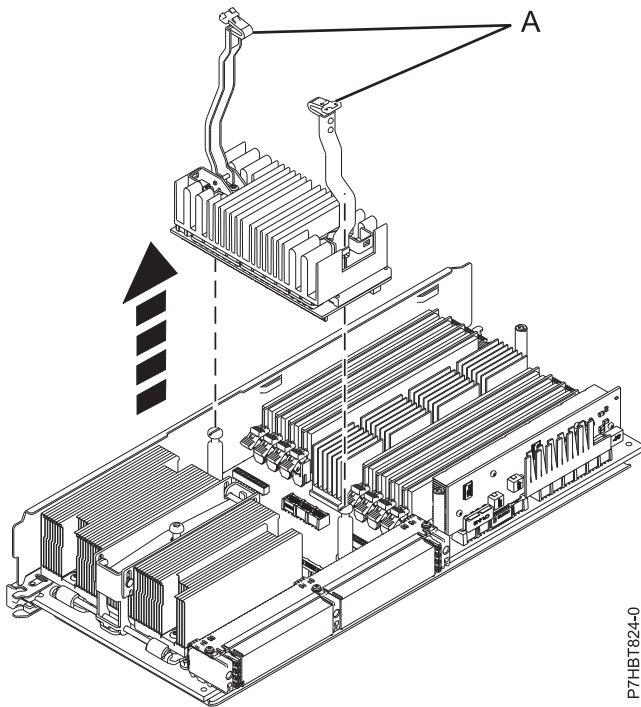

Figure 84. Removing the processor voltage regulator module from the system
- b. Lift both of the mechanical voltage regulator arms (A) upward at the same time until they are in the vertical position, as shown in Figure 84 on page 190.
- c. Carefully pull up on both of the arms (A), at the same time, to lift the processor voltage regulator module from the system processor assembly.